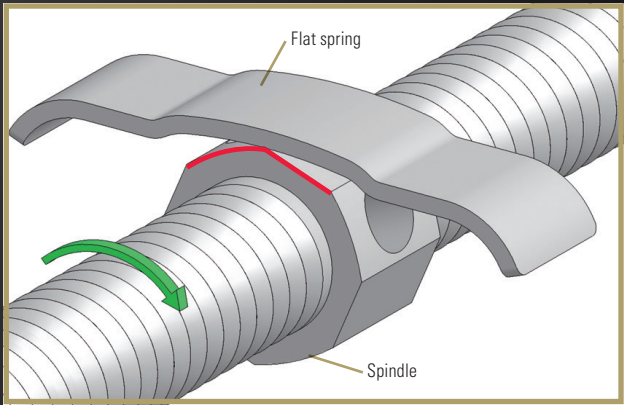

Fig. 1: Activation in progress (Spring under tension)
- 1 The Snap Lock Expander does not turn back unless the doctor or patient turns it back. After the activation of the spindle (Fig. 1), the flat spring snaps in (Fig. 2).